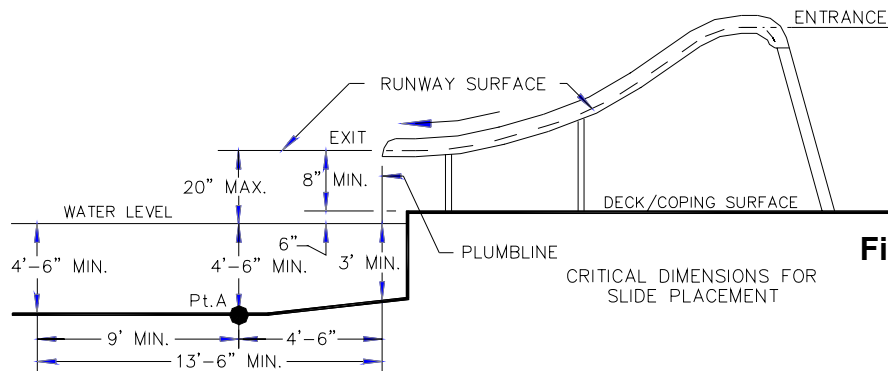

**Figure 25**
- 3) Using the four holes on each flange as a template (see Figure 25 below), drill four 5/16" holes per flange 1-3/8" deep. CAUTION: Do not drill holes larger than 5/16". Maintain drill hole straight and perpendicular for proper holding strength of anchor stud.
- 8) Drill a 1/4" diameter hole into the slide leg through the 3/8" diameter hole in the flange. Insert the (#30) 3/8" O.D. Aluminum Bushing into the hole in the deck flange and push in until it contacts the slide leg. Now insert the (#27) 1/4"-20UNC x 2-3/4" Hex Head Cap Screws and (#25) 1/4" x 5/8" Flat Washers through the bushing and in about a 1/2" into the hole in the slide leg. With the cap screw in position, drill a 1/4" hole into the slide leg through the 5/16" diameter hole in the opposite side of the deck flange. Take care not to run the drill bit into the 1/4" bolt. Push the cap screw completely through the slide leg. Install the (#25) 1/4" x 5/8" Flat Washers and (#26) 1/4"-20UNC Hex Lock Nuts (see Figure 25).